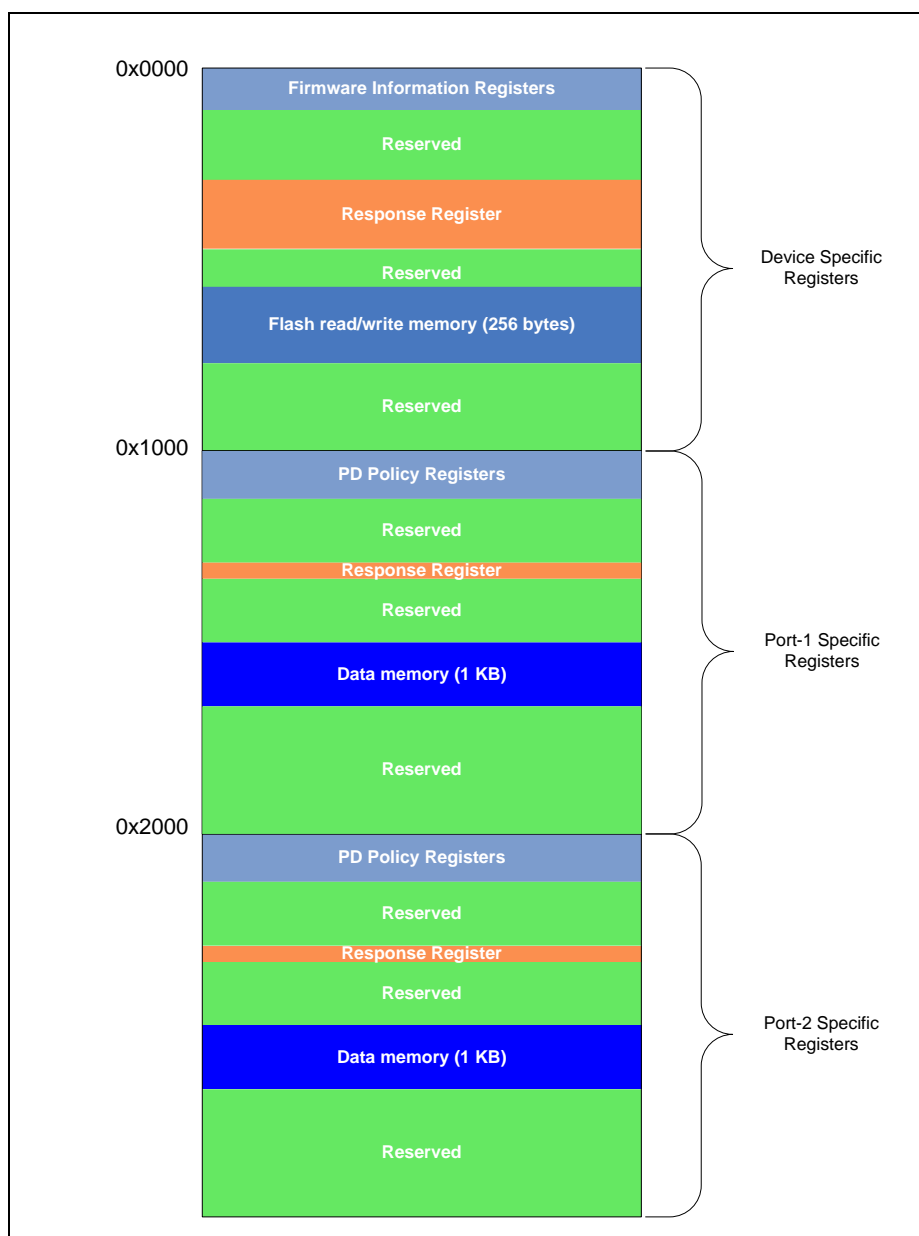

Figure 5 HPI Overview
The HPI is provided such that a local embedded controller (EC) or host processor can optionally monitor and control the runtime operation of the CCG4 device. CCG4 implements the HPI using I²C interface, and the HPI interrupt is implemented using a GPIO. In a CCG4 notebook application, the EC may communicate with the CCG4 to negotiate the current with the connected Type-C device based on the charge level of the internal battery. CCG4 provides this functionality using commands, responses, events, and asynchronous messages modeled as registers as shown in Figure 5.